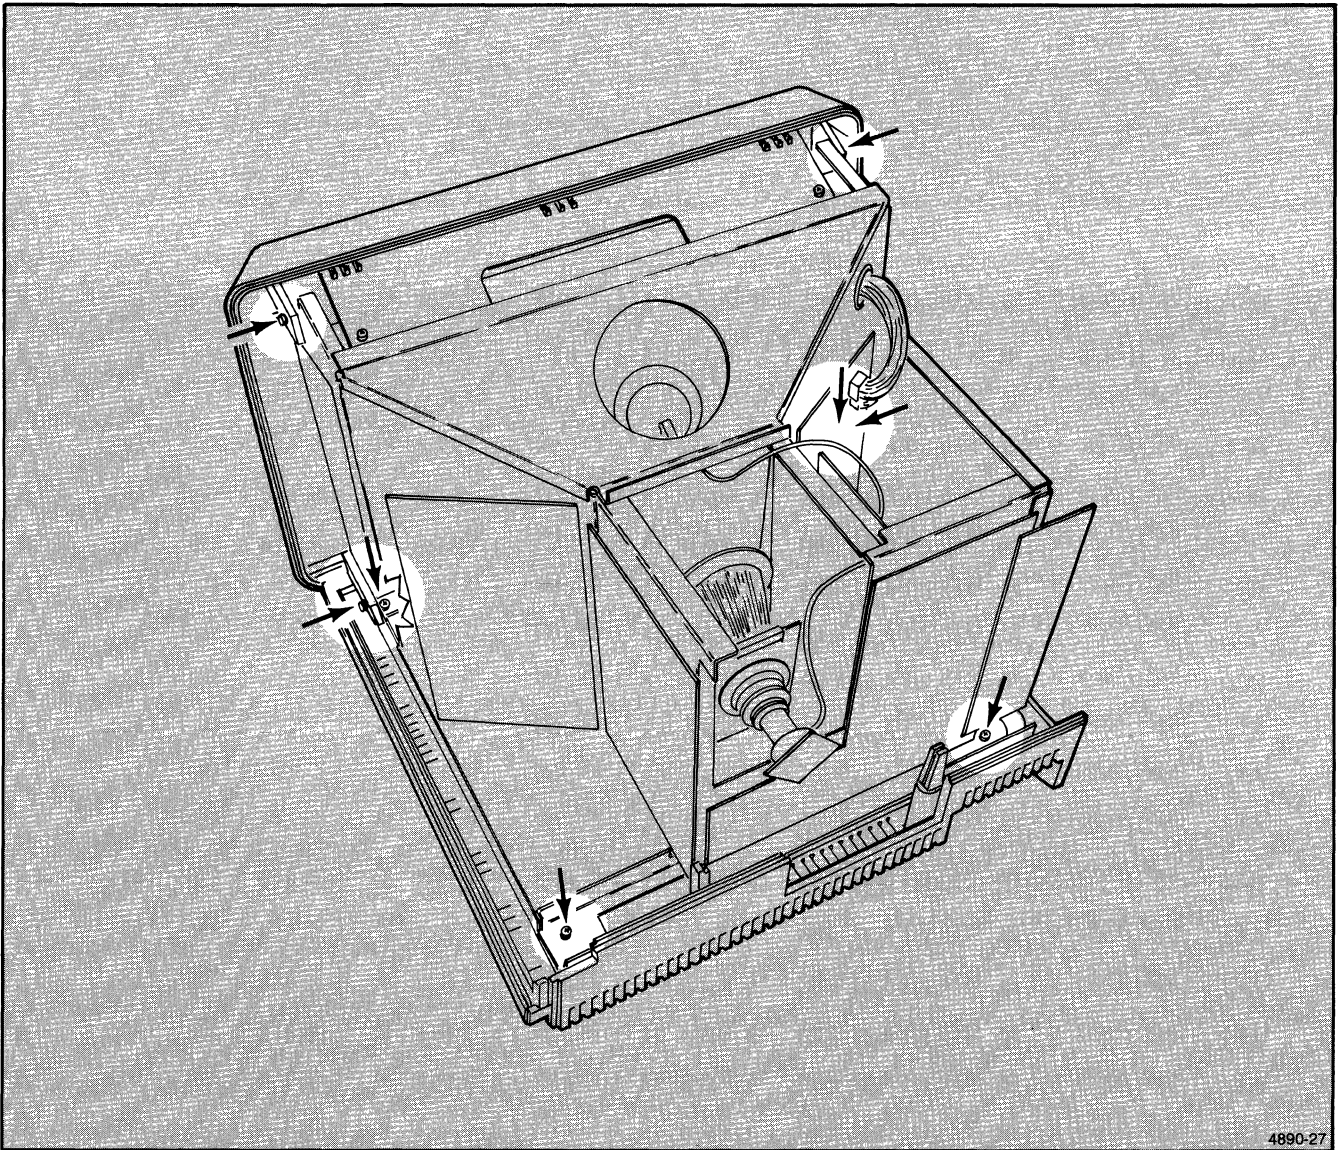

Figure 6-8. Mounting Screws for the Front Bezel and Display Module.
The GMA301-type Display Module mounts to the terminal with eight screws. One screw is located in each corner of the Display Module's base. Two screws in each side of the chassis (near the front of the CRT) fasten the terminal's front bezel to the Display Module. Figure 6-8 shows the locations of all eight screws.
5. Remove the main front bezel that surrounds the crt and contains the BRIGHTNESS, POWER, and DEGAUSS controls. This bezel attaches with four screws (two in each side). See Figure 6-8 again.
6. Remove the main front bezel that surrounds the crt and contains the BRIGHTNESS, POWER, and DEGAUSS controls. This bezel attaches with four screws (two in each side). See Figure 6-8 again.